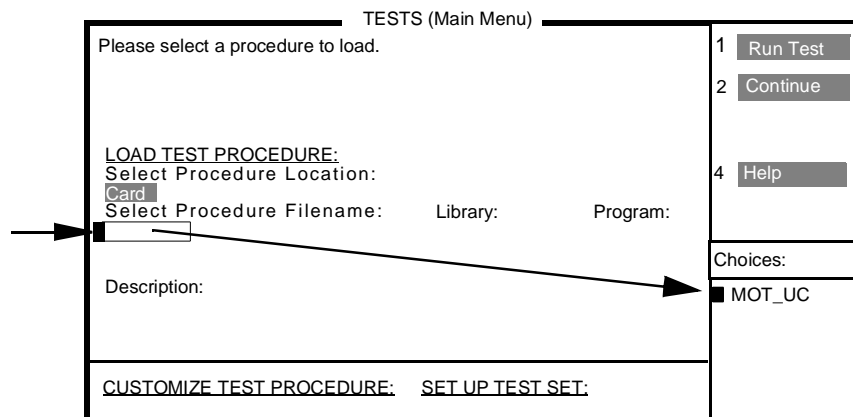

Figure 5
- 2 In the **Choices:** menu, position the cursor and select the **Card** option. "Card" appears in the **Select Procedure Location** field (see figure 5).
- 3 Position the cursor in the **Select Procedure Filename** field and select it (see figure 5). One or more options appear in the **Choices:** menu.